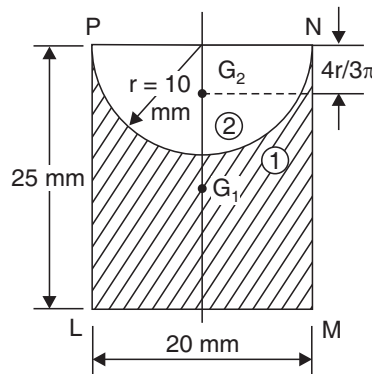

Fig. 5.30
**Example 5.10.** Determine the moment of inertia of the shaded area about the edge  $LM$  as shown in Fig. 5.30